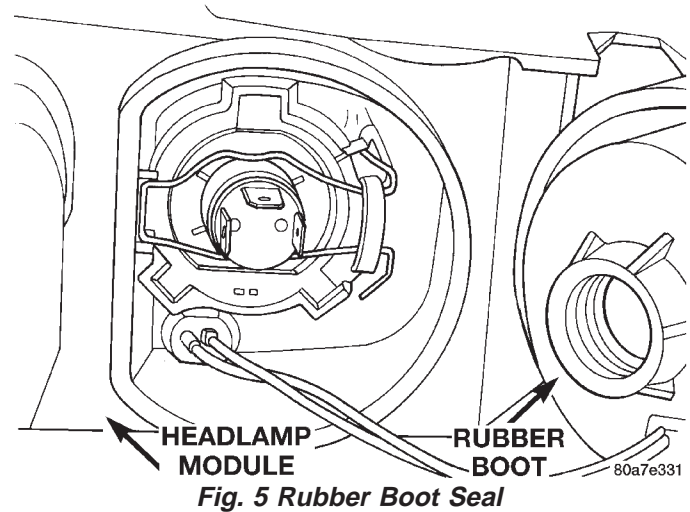

Fig. 5 Rubber Boot Seal
- (1) Release hood latch and open hood.
- (2) Remove screws holding headlamp module to radiator closure panel.
- (3) Separate headlamp module from radiator closure panel.
- (4) Disengage wire connector from back of headlamp bulb.
- (5) Remove rubber seal boot (Fig. 5).